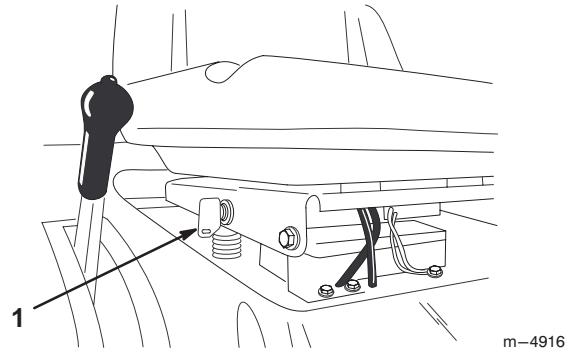

Figure 12
If you need to use the PTO while backing up, you can turn off this interlock feature using the KeyChoice switch located near the seat bracket (Fig. 12).
2. Insert the KeyChoice key into the switch (Fig. 12).